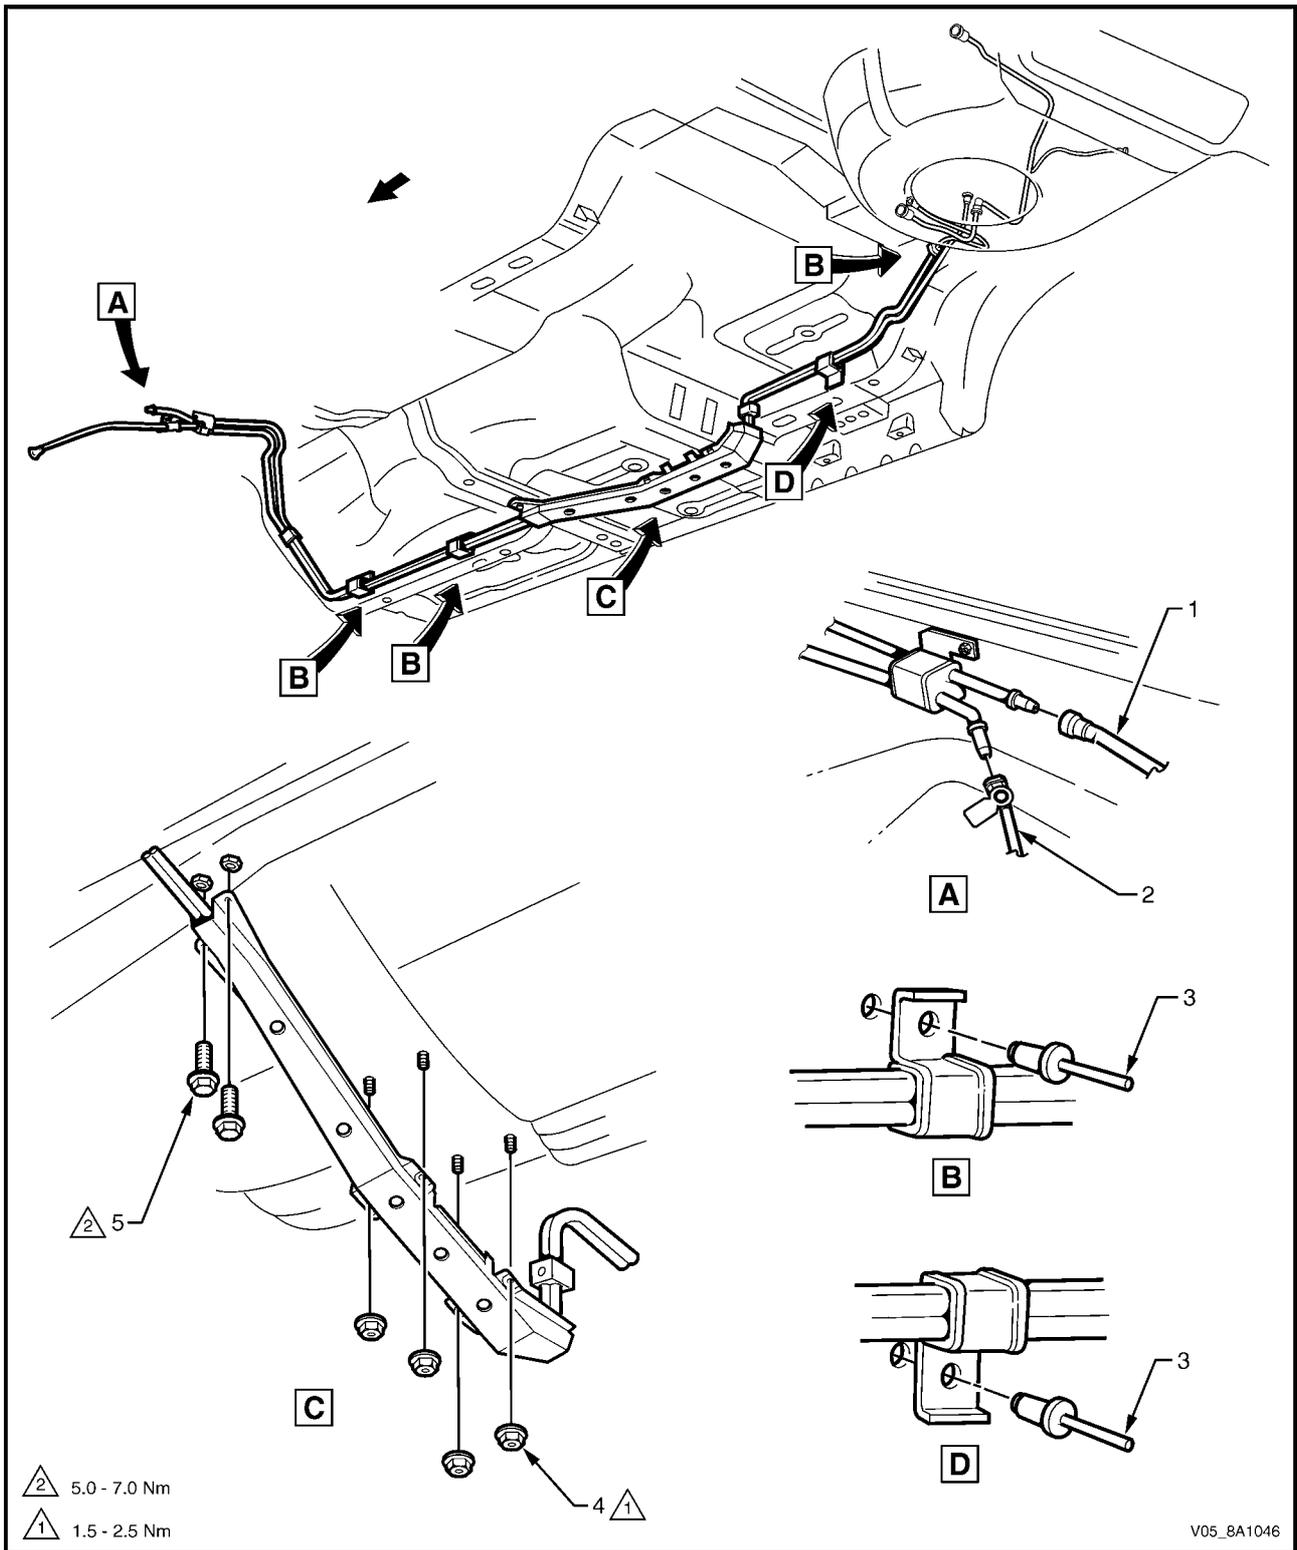

Figure 8A1 - 149
- 5 If required, remove the stone guards and fuel pipes. Use the following illustrations showing the fuel pipe layout and location of other items relating to the fuel system as a guide, refer to Figure 8A1 – 149 and Figure 8A1 – 150.